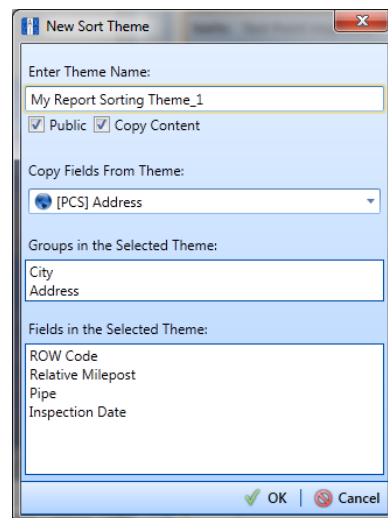

Figure 14-37. New Sort Layout
- 4 Click  **Add** to open the *New Sort Layout* dialog box (Figure 14-37).